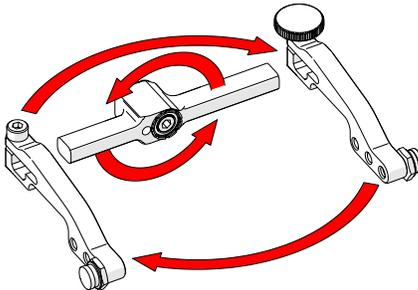

Fig. 141 - Flip yoke and reverse arms
4. Flip the yoke 180° and reverse the probe holder arms (Fig. 141).